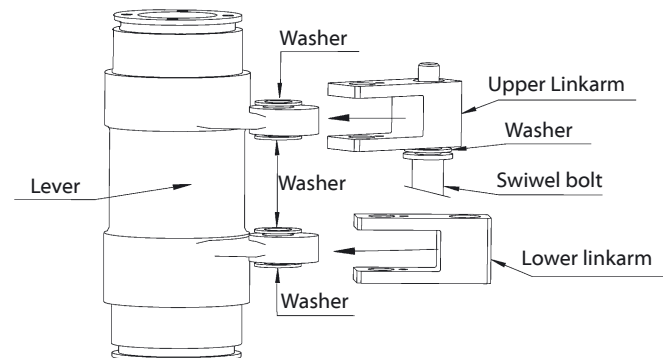

Fig. 11
NOTE! The position of the washers (see Fig. 11).
10. Fit the new pin bolt (H) and washer on the new upper link arm (G) and lock with locking ring (O).
13. Secure the upper link arm on the lever by inserting the pivot pin (F). NOTE! The right position for the washers is demonstrated in the drawing, see Fig. 11). Lock with screw (E).
14. Fit a new seal (P) and refit the cover and the driver.